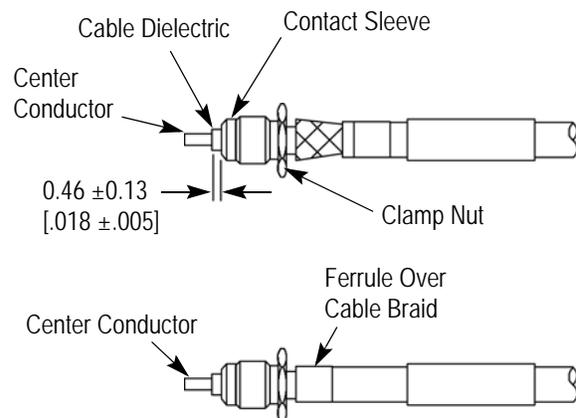

Figure 3
- Insert the contact sleeve into the clamp nut. Slide the assembly over the cable dielectric until the dielectric protrudes from the contact sleeve to the dimension shown in Figure 3, Detail A.
- Slide the ferrule over the cable braid. Crimp the ferrule. See Figure 3, Detail B.